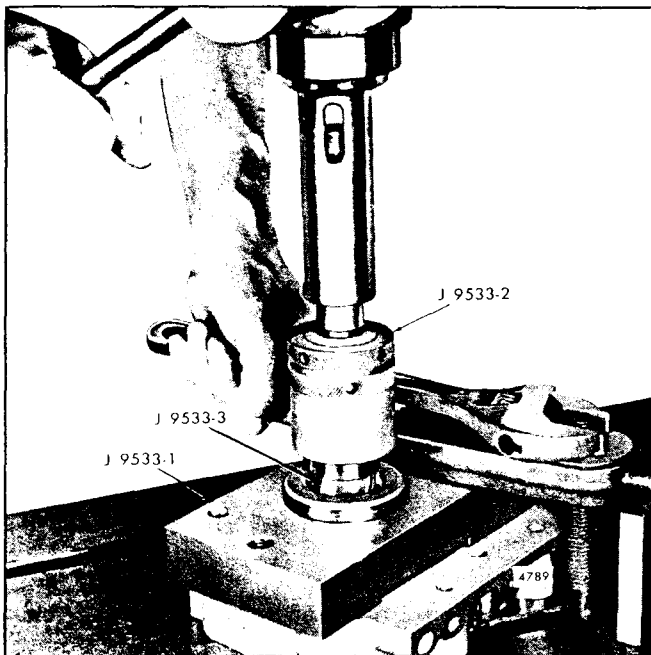

Fig. 3 - Positioning Cutting Tool in Fixture Guide
5. Position the cutting tool in the fixture guide as shown in Fig. 3. Operate the drill press at 75-100 rpm so as to center the cutting tool in the rotor shaft hole. Tighten the clamp.